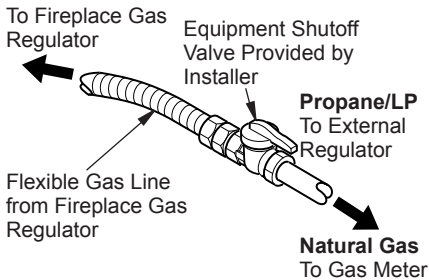

Figure 20 - Attaching Flexible Gas Lines Together
4. Attach the flexible gas line to gas supply (see Figure 20, page 15). Check tightness of flexible gas line attached to gas regulator of fireplace (see Figure 20, page 15).
NOTICE: Most building codes do not permit concealed gas connections. A flexible gas line is provided to allow accessibility from the fireplace (see Figure 20). The flexible gas supply line connection to the equipment shutoff valve should be accessible.